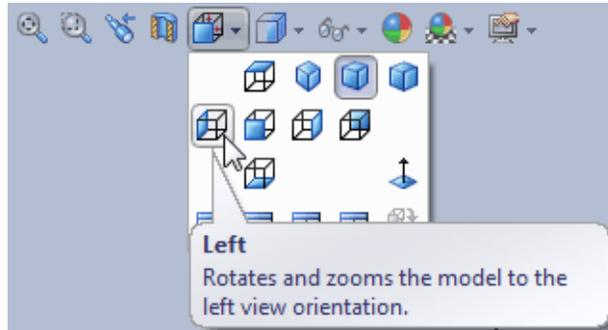
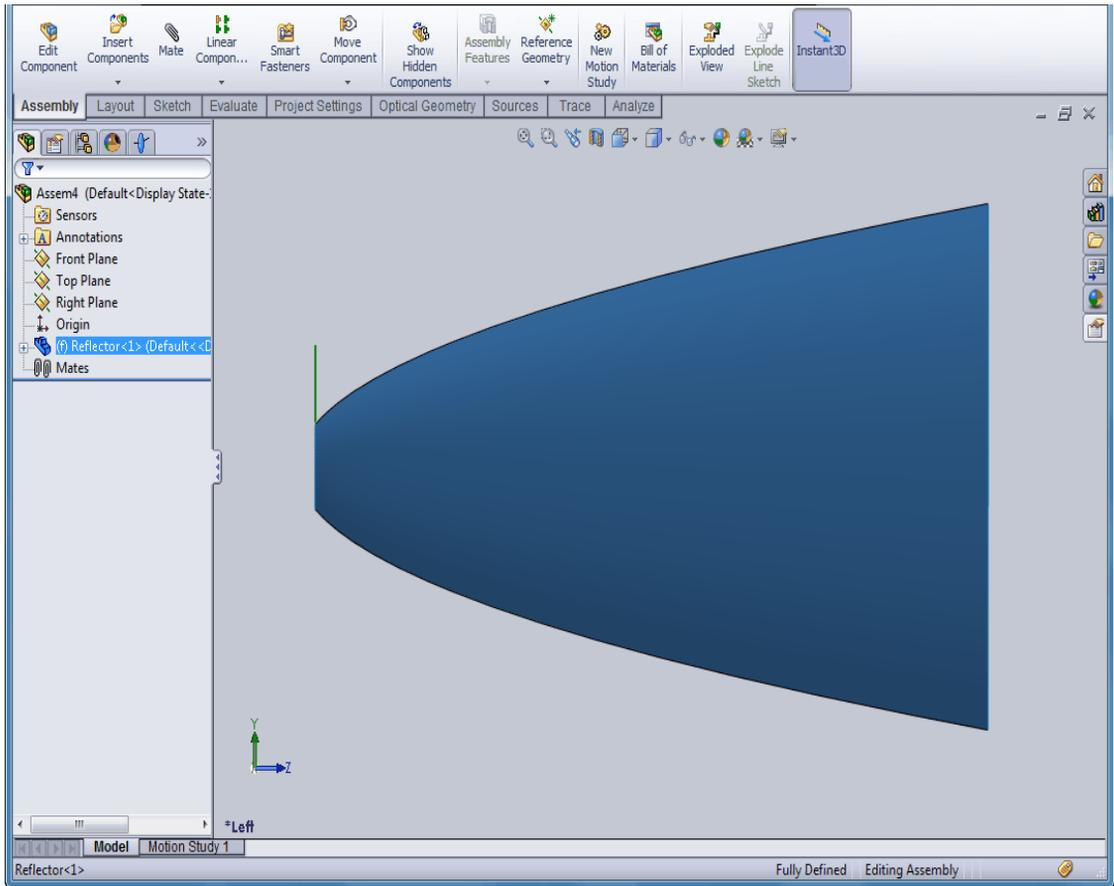

Figure 54 View Orientation toolbar highlighting the Left tool
Figure 55 FeatureManager (left) highlighting fixed (f) reflector, and reflector displayed in the graphics area (right)
- 2 Click the **View Orientation** tool under the CommandManager toolbar, and click the **Left** icon. See Figure 54 and Figure 55.